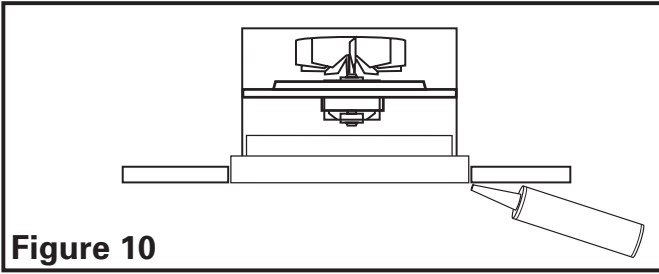

Figure 10
4. If there are any gaps between the drywall and the ceiling damper frame, seal them with caulk carrying the appropriate UL rating (**Figure 10**).